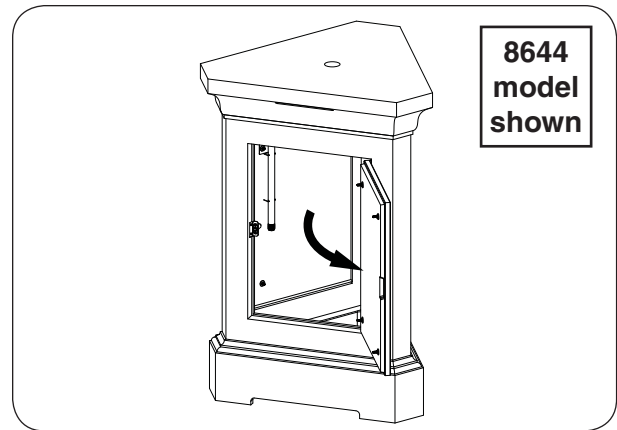

Fig. 26-1 Place pedestal and open door
CAREFULLY place the pedestal in an appropriate location (see Fig. 26-1, and refer back to the LOCATION section if needed).
1. Open the storage door (see Fig. 26-1).